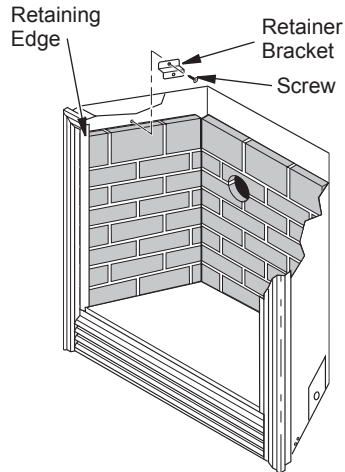

Figure 5 - Securing Side Firebrick Panel to Side Wall of Fireplace
- Secure side firebrick panel to side wall of fireplace with one retainer bracket and one screw (see Figure 5).